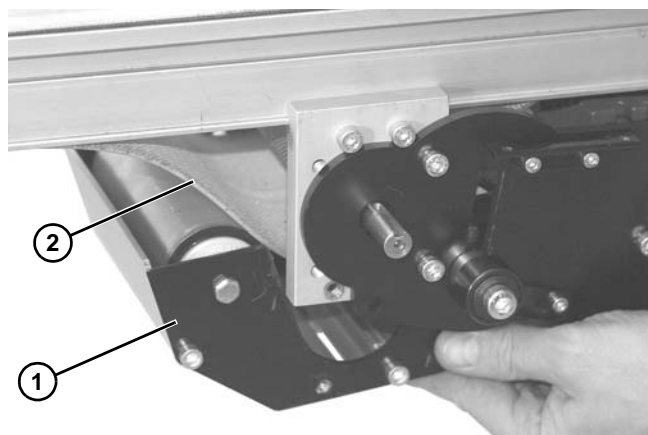

Figure 57
3. Lower and remove mid drive module (Figure 57, item 1) from belt (Figure 57, item 2).